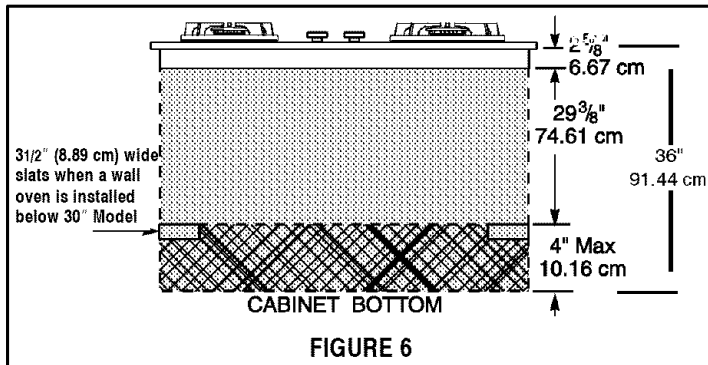

FIGURE 6
NOTE 1: This appliance and its gas and electrical supply sources must be installed before the wall oven is installed. See illustration (Electrical Wiring Information - page 4; figure 6) for recommended electrical supply source locations.
This appliance is equipped with a grounded type power cord. A grounded outlet must be provided. It is recommended, for convenience, the outlet be located (with reference to figure 6) as in A or B, below:
- A. If no other appliance is to be installed below this appliance: within either the shaded area or the cross hatched area shown in figure 6.
1. within the cross hatched area of figure 6, or,
If a wall oven is to be installed below this appliance and the counter unit's outlet is to be mounted within the cross hatched area of figure 6:
3. When model W30XXX is mounted below this appliance, and if the power outlet for this appliance is to be located in the cross hatched area of figure 6, it is recommended the power cord be routed through the external vertical clearance channel at the left rear of the oven. The channel's cross section is approximately 4.2" x 2.25" (10.7 x 5.7 cm), extending the full height of the oven. (Model W131 provides a similar, but larger, vertical channel near the center of the main back of the oven.)